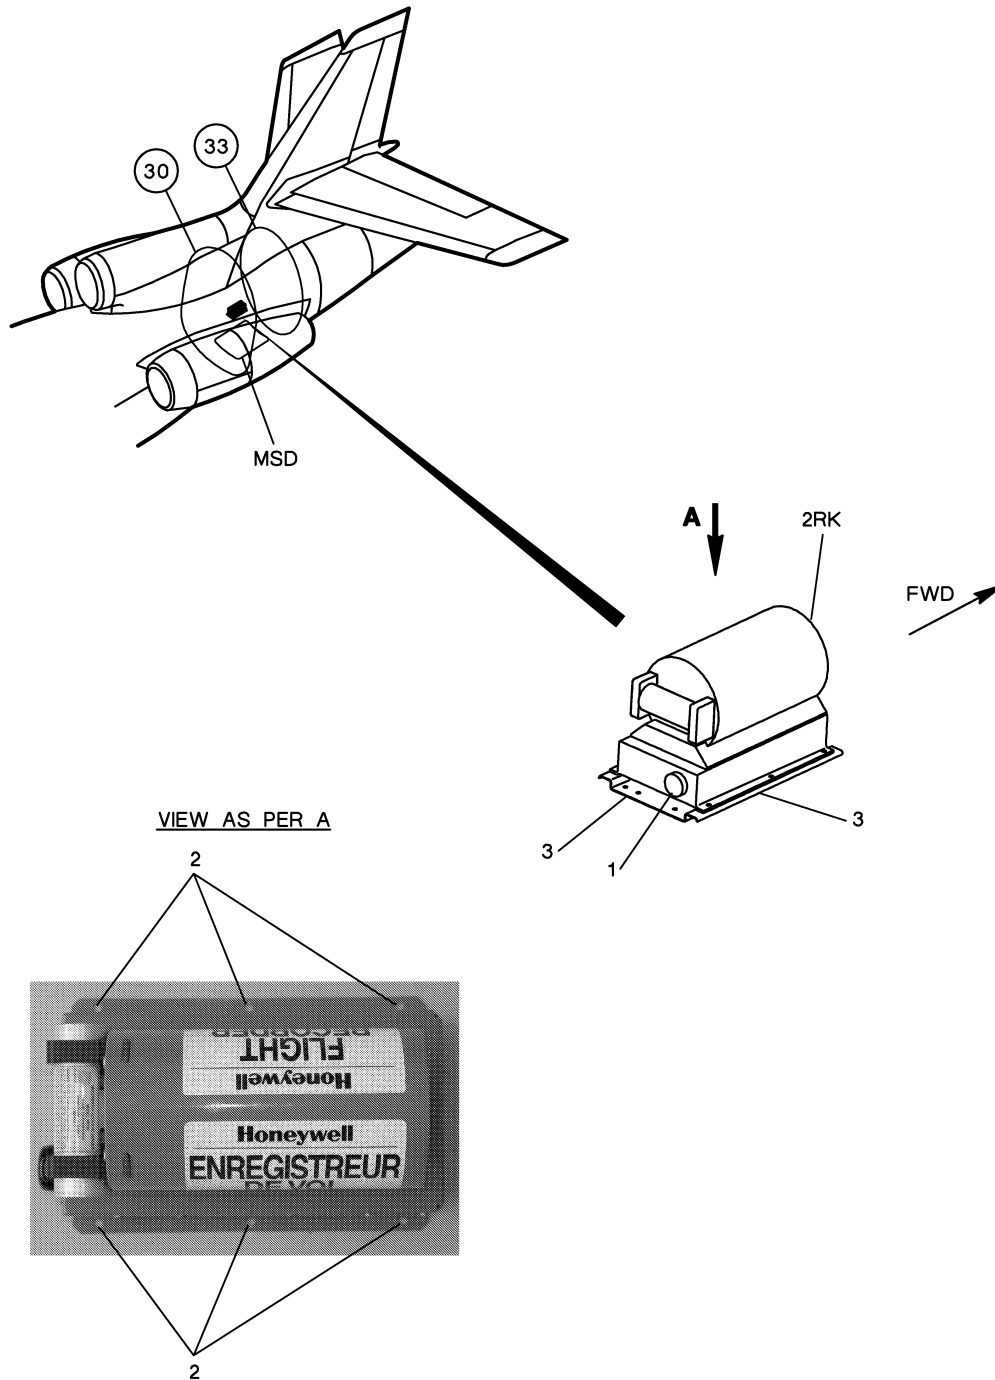
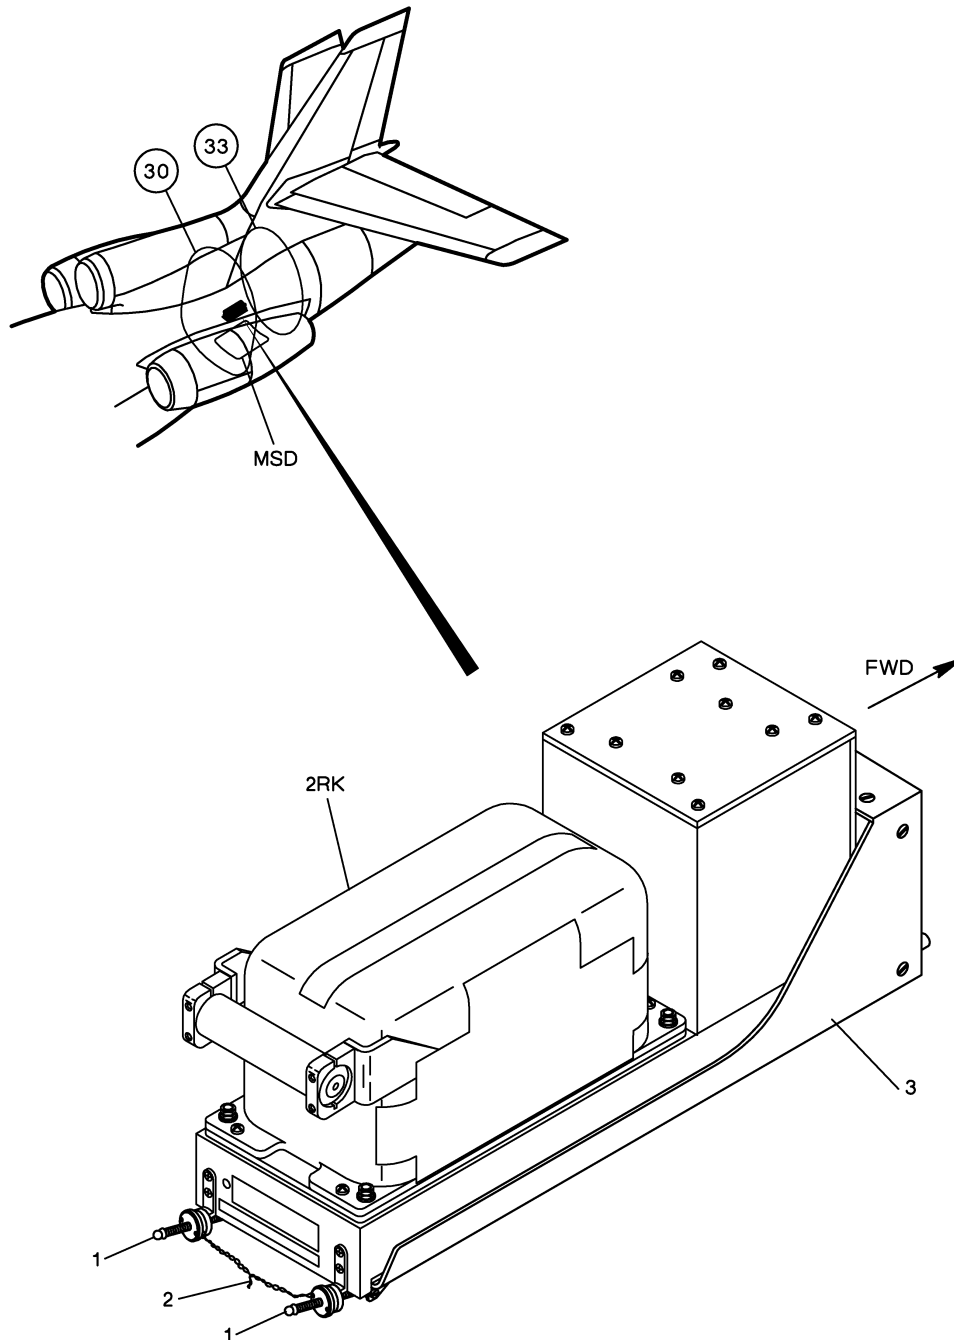

Figure 2: Removal/Installation of ALLIED SIGNAL "AR-Series" CVR (A/C WITH M 2819 OR M 2841)
Figure 3: Removal/Installation of ALLIED SIGNAL "Solid State" CVR (A/C WITH M 2022 or M 2818)
A. Removal of ALLIED SIGNAL "AR-Series" CVR (**2RK**) (A/C with M 2819 or M 2841) (**fig. 2**)
(1) In the mechanic's servicing compartment (**MSD**):
- B. Removal of ALLIED SIGNAL "Solid State" CVR (**2RK**) (A/C with M 2022 or M 2818) (**fig. 3**)
- (1) In the mechanic's servicing compartment (**MSD**):
- (a) Unsafety the two quick-disconnect locks (1) by cutting lockwire (2).
- (b) Loosen and clear the two quick-disconnect locks (1).
- (c) Carefully extract CVR (**2RK**) from its support rack (3).
- A. Installation of ALLIED SIGNAL "AR-Series" CVR (**2RK**) (A/C with M 2819 or M 2841) (**fig. 2**)
- (a) Position CVR (**2RK**) on its support (3).
- (b) Tighten the six screws with their washers (2).
- (c) Connect the electrical cable to connector (1).
- B. Installation of ALLIED SIGNAL "Solid State" CVR (**2RK**) (A/C with M 2022 or M 2818) (**fig. 3**)
- (a) Position CVR (**2RK**) on its support rack (3) and bring it in contact with its locating pins.